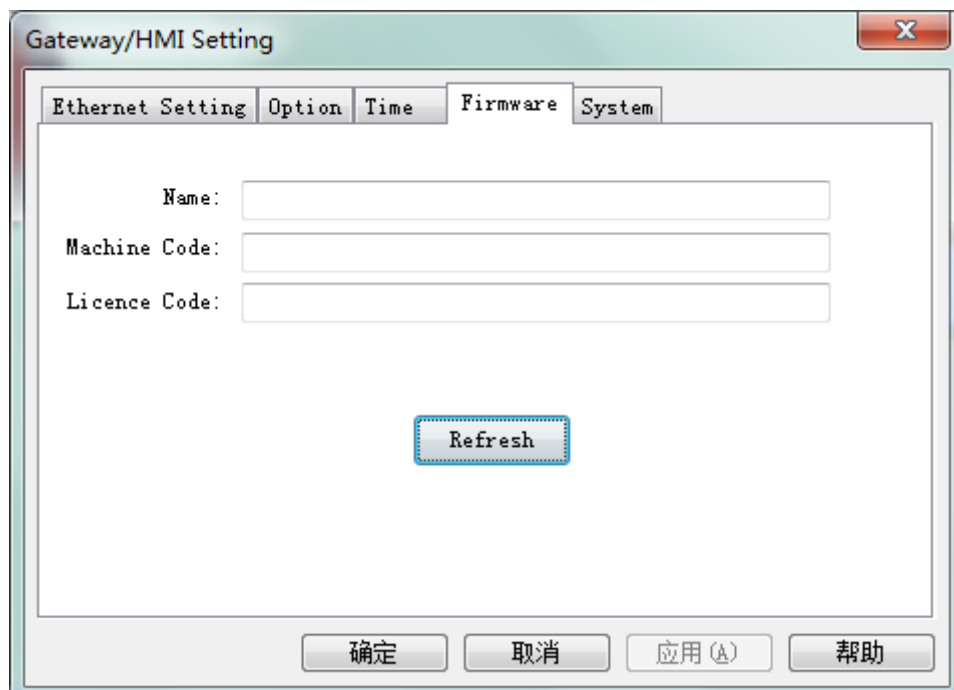

Figure 4-13-5 Fireware
**Firmware information:** click refresh can look at the name of the hardware gateway / touch panel and the machine code, as shown in figure 4-13-5.